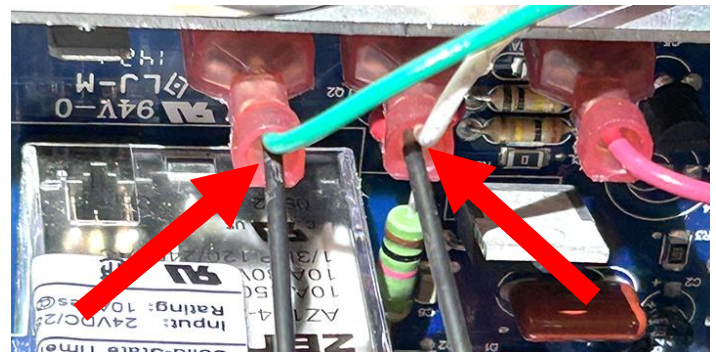

Figure 13
- ii. Test **across pins** 6 (Green) & 7 (White) or 2 & 3, depending which pins have Green and White wires attached (see Figures 13, 14 & 15). The voltage should be near 0VDC when activated. If the voltage is above 0.3VDC with power on and contacts closed, the time delay relay **MUST** be replaced.